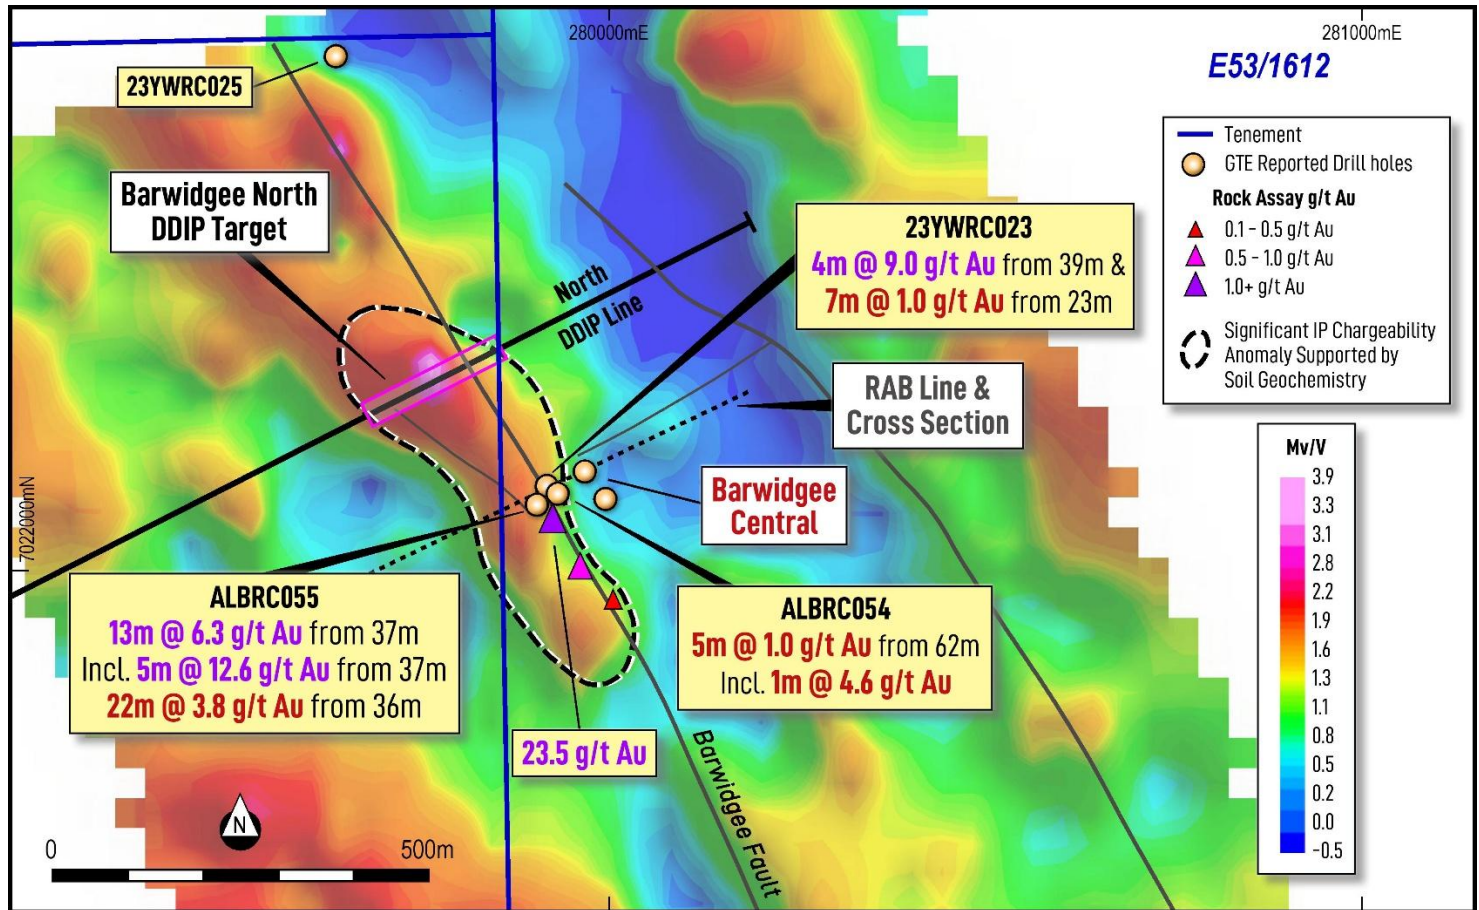

Figure 2: Larger map of the GAIP Chargeability showing the regional scale potential along the 2km Barwidgee Trend.
- Importantly, the correlation between IP chargeability highs and gold mineralisation reinforces the **prospectivity of other untested IP targets along the Barwidgee Fault**, including the untested DDIP target at Barwidgee North for up to 1km strike (Figure 2).